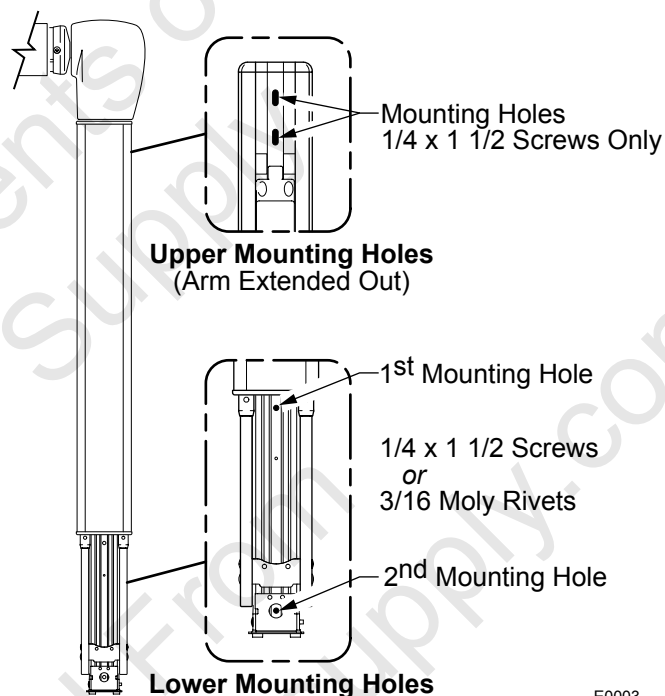

Figure 5. Arm Mounting Hole Locations.
7. Confirm that the arm is perpendicular to the awning rail, attach the arm at the second mounting point (shown in Figure 5) using a 5/32" drill bit and a 1/4 x 1-1/2" lag screw.